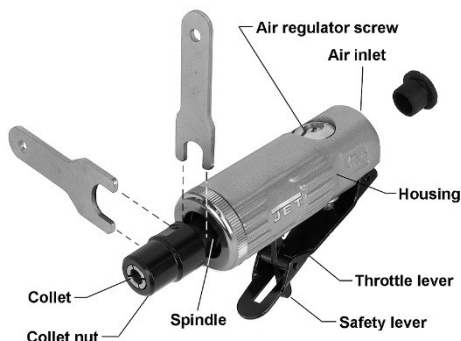

Figure 1 (straight model shown)
1. Loosen collet nut using the two wrenches on the flats of the collet nut and spindle (Figure 1). Keep wrench on spindle stationary while turning wrench on collet nut.
3. Remove protective cap from air inlet (Figure 1). If an in-line oiler is not being used, add 4 or 5 drops of air tool oil (not included) into the air inlet.